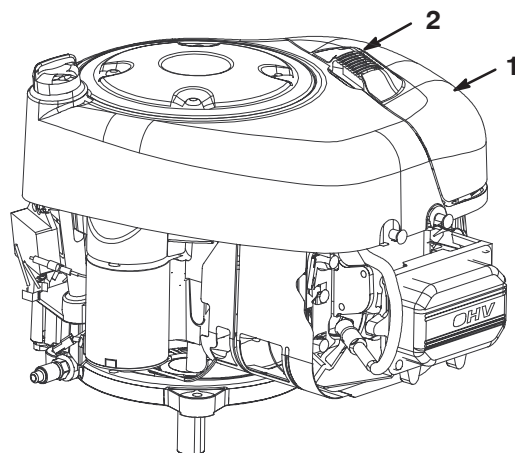

Figure 21
2. Clean around the air cleaner to prevent dirt from getting into the engine and causing damage. Pull up on the air cleaner cover handle and rotate it toward the engine (Fig. 21). Remove the air cleaner cover.